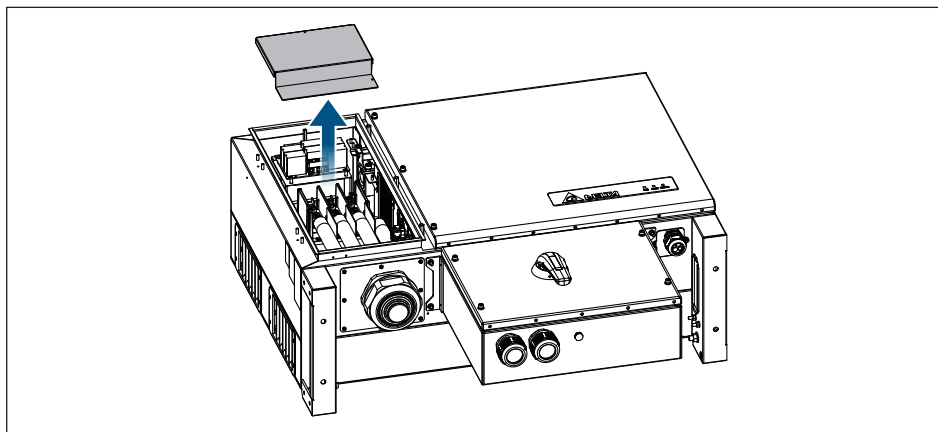

Figure 5-16: Remove the internal fan 2 shield cover
(See **Figure 5-16, 5-17, 5-18, 5-19**)
- (1) Remove the shield cover. (shown in **Figure 5-16**)